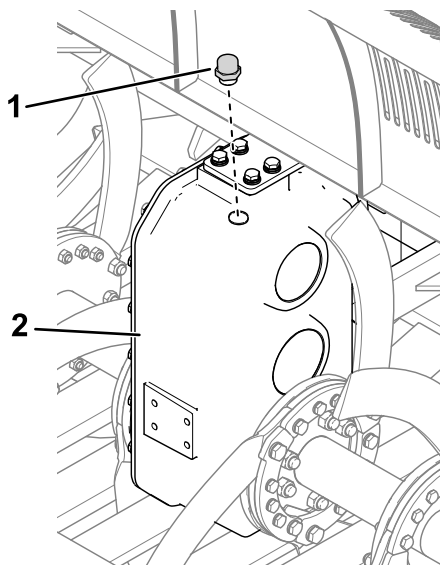

Figure 5
10. Install the breather to the gearbox (Figure 5).